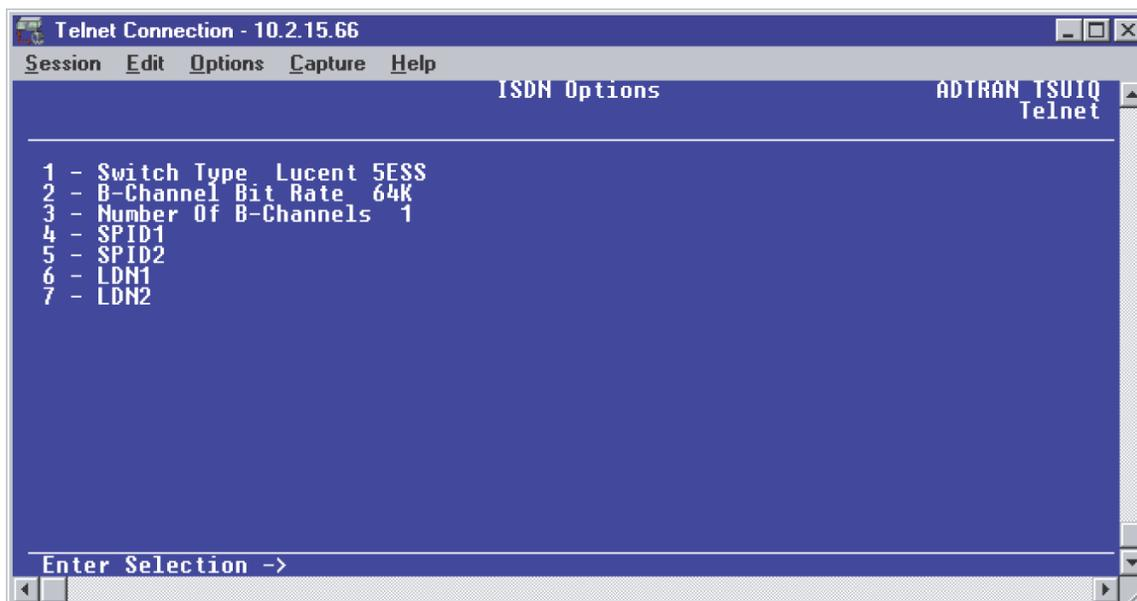

Figure 27. ISDN Options Menu
1. Press **<ESCAPE>** once to get back to the **CONFIGURE DIAL BACKUP** screen shown in Figure 22. Select option 5, **ISDN OPTIONS** and press **<ENTER>**. The menu screen shown in Figure 27 is displayed. The default values for the parameters on this screen are shown.